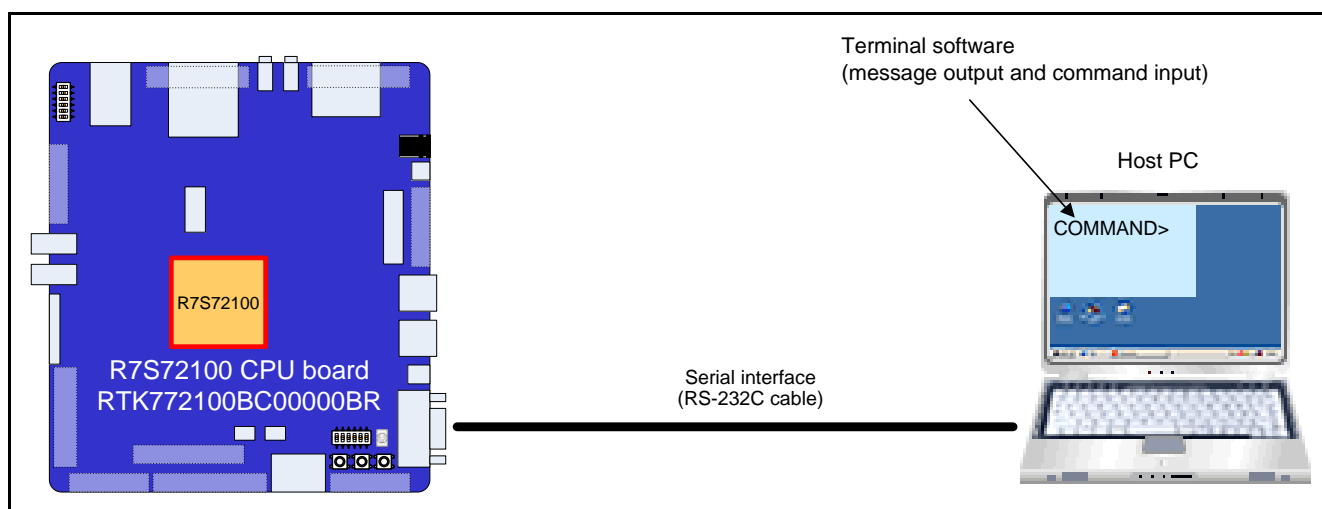

Figure 1.1 Operation Overview
Table 1.1 lists the Peripheral Functions and Their Applications and Figure 1.1 shows the Operation Overview.
- (1) Turn ON the GENMAI board under the operation environment shown in Figure 1.1.
- (2) Input "1"+"Enter" from the terminal and initialize RTC.
- (3) Input "2"+"Enter" from the terminal and set the RTC time counter using the time input according to the message displayed on the terminal.
- (4) Input "4"+"Enter" from the terminal and start the RTC time count operation.
- (5) Input "3"+"Enter" from the terminal and display the current time on the terminal.
- (6) Input "6"+"Enter" from the terminal and set the RTC alarm time using the time input according to the message displayed on the terminal. Then transit to deep standby mode.
- (7) Return from deep standby mode when the value of time counter indicates the alarm time set in step (6) by using the time count operation in deep standby mode.